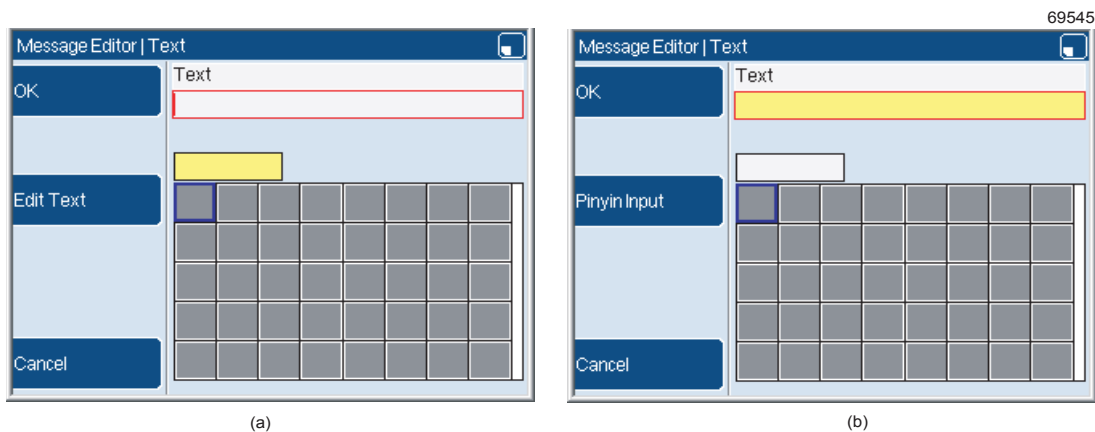

Figure 19. Text page: (a) Pinyin Input mode and (b) Edit Text mode
2 The Pinyin system page opens in 'Pinyin Input' mode (see Figure 19 (a) on page 11). Press the **Edit Text** key to change to 'Edit Text' mode (see Figure 19 (b) on page 11). Press the key again to return to 'Pinyin Input' mode. The active text box has a yellow highlight. The two modes operate as follows:
- 2 The Pinyin system page opens in 'Pinyin Input' mode (see Figure 19 (a) on page 11). Press the **Edit Text** key to change to 'Edit Text' mode (see Figure 19 (b) on page 11). Press the key again to return to 'Pinyin Input' mode. The active text box has a yellow highlight. The two modes operate as follows: